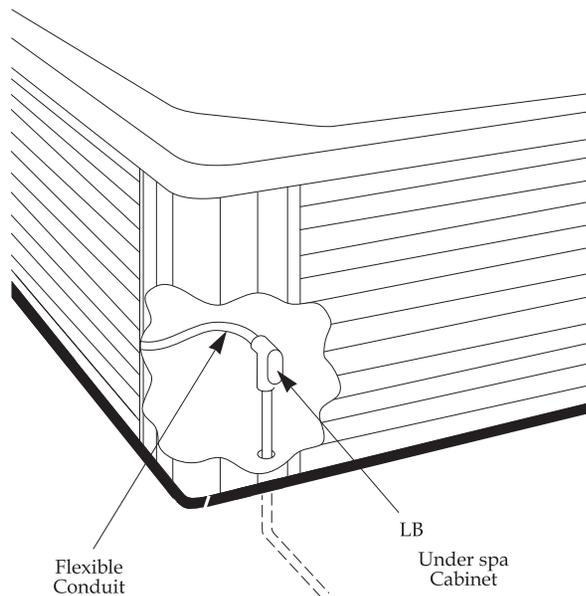

Figure 1
**Under the spa cabinet- See figure 1 on pg. 11**
T-valves must be open when spa is in use. See Fig. 1.